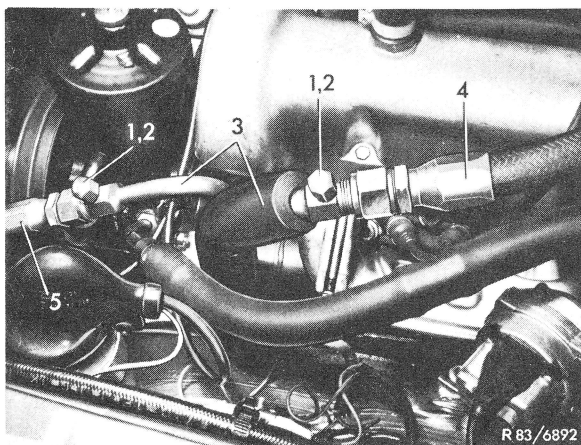

Fig. 2
1 Remove plugs (1) of line connections of both service valves (Fig. 2).